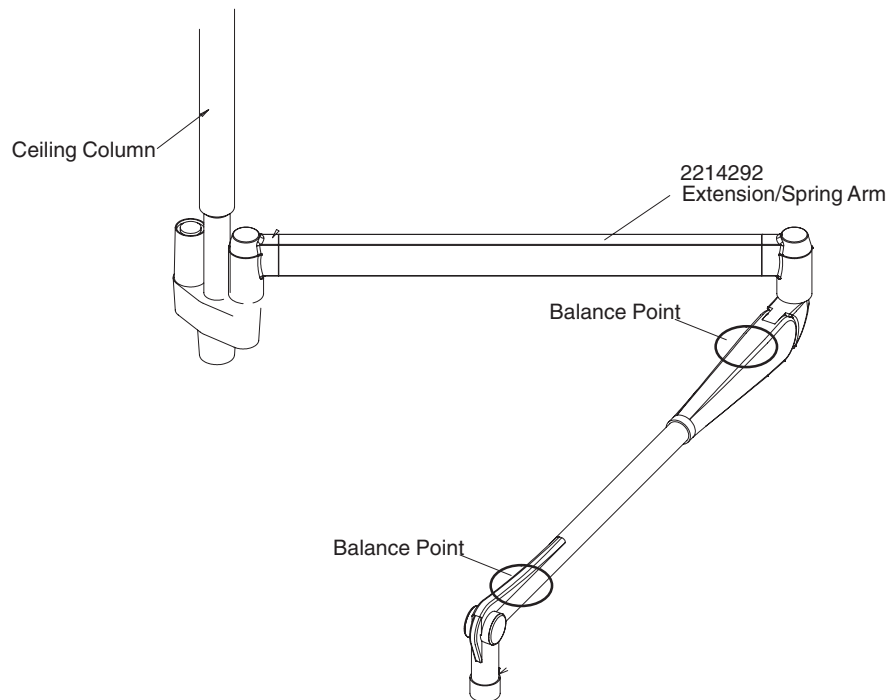

Figure 2-11 Balance the Extension/Spring Arm Assembly
- 1.) Refer to Figure 2-11. Remove the plastic end cover on the adjustable arm by pulling outward on each side while lifting the plastic cover upwards.